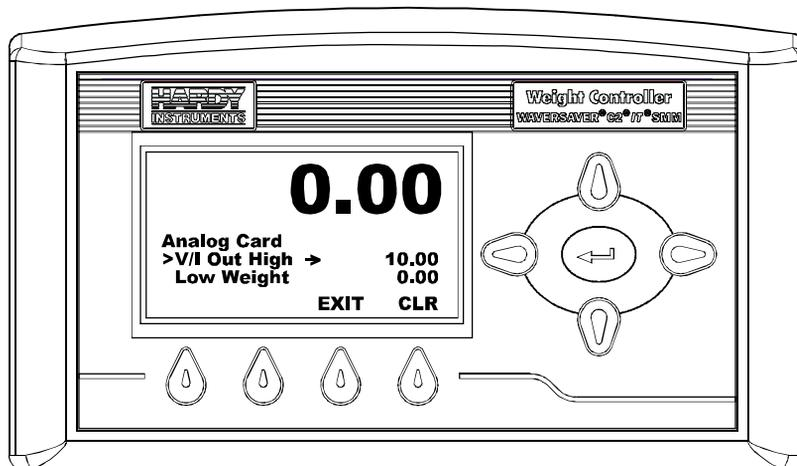

FIG. 151 ANALOG CARD MENU/SELECTING V/I OUT HIGH
Step 4. Press the down arrow button until the cursor is in front of V/I Out High. (See Fig. 151)